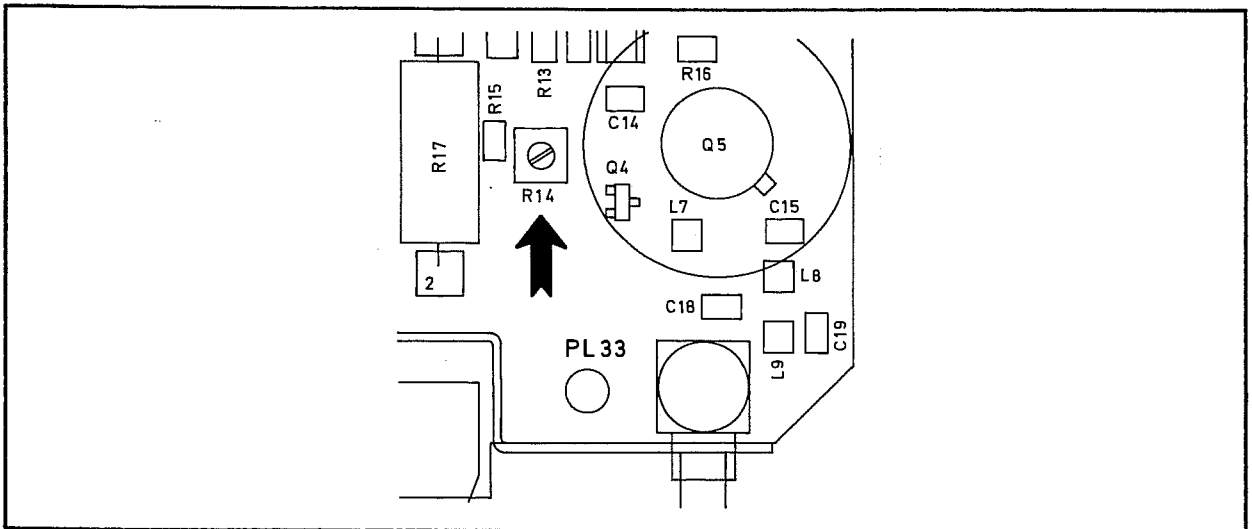

Fig. 7.9 Location of R14
- (5) Adjust R14 on the LO Synthesizer until the Power Meter reads +22 dBm +/-0.1 dBm. See Fig. 7.9 for the location of R14.
- (6) Set the LO to each of the frequencies shown in Table 7.3 and check that the output level is as shown, and that the 2101 display reads '0'.